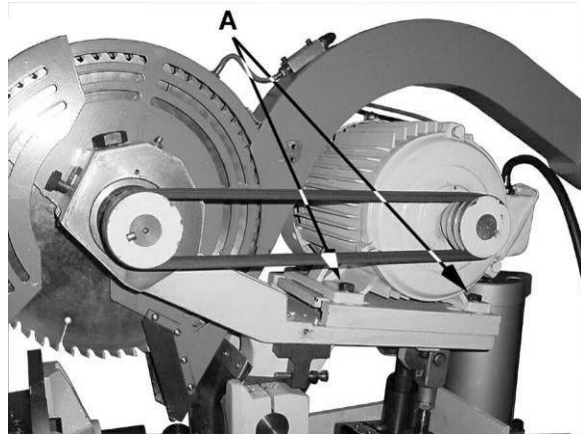

Figure 13
2. Loosen four bolts (A, Fig. 13) and slide motor back.